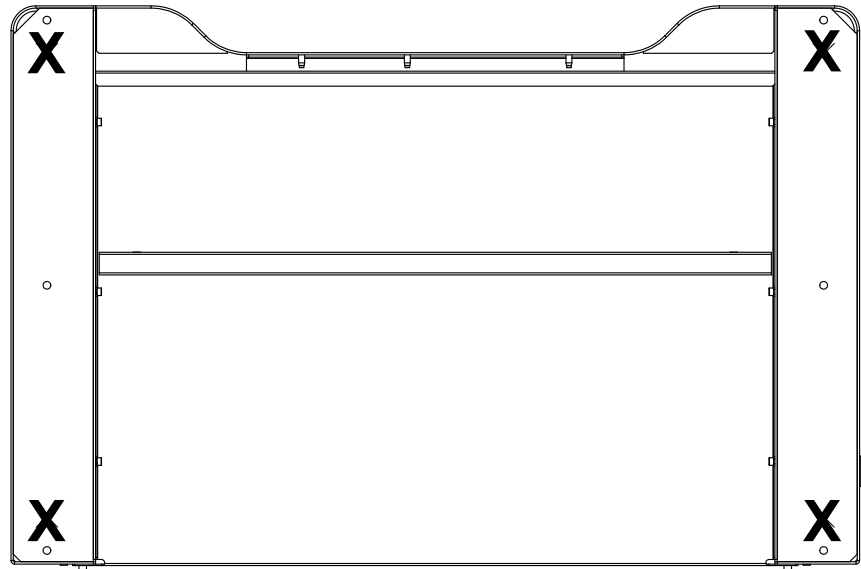

Figure 26. Underside of frame showing location of frame feet
7. Locate the frame feet that have been removed in order to bolt the frame to the shipping skid. Remove the tubular brackets at the rear of the frame base and install the frame feet at the locations indicated in Figure 26 on page 84.